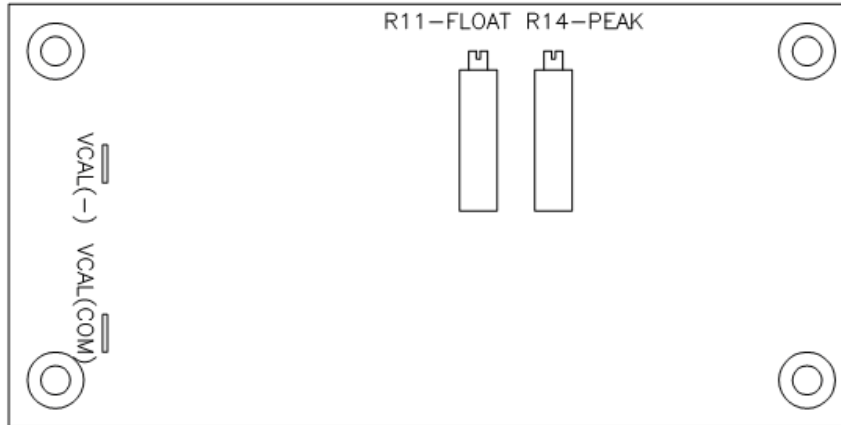

Figure 11 - Voltage Control Board Adjustments
10.2.3.5. CURRENT CONTROL (see fig 11).
10.2.5.2. VOLTAGE CONTROL - See [Figure 11]